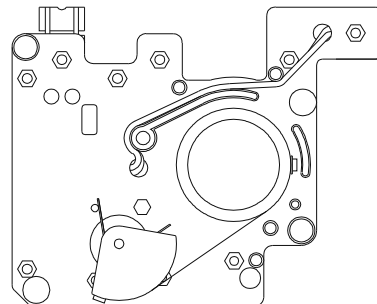

FIGURE 3. Bottom View of Carrier Plate Assembly Showing Shaft and Potentiometer in Mid Travel, Ready to be Fitted to Actuator in Mid Travel.
2.1.5 Observe the range of motion available to the positioner shaft, limited by the correct running of the potentiometer quadrant wheel, driven by the stainless steel strap (see Figure 3). Fit the carrier plate/shaft assembly back into the positioner box (see 2.1.1), “feeling” the female square in the positioner shaft onto the male actuator square.